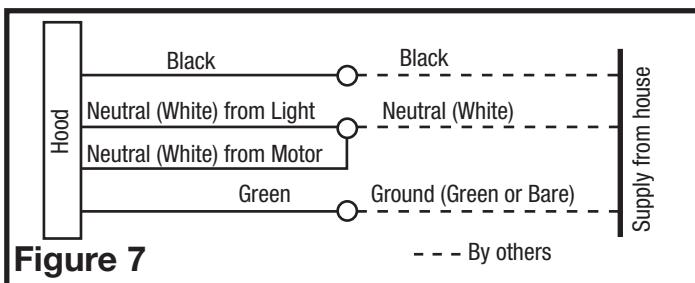

Figure 7
- Connect the 2 loose White wires from the range hood to the White wire from the supply, and the loose Black wire from the range hood to the Black wire of the supply. Connect the ground wire (green or bare) from the supply to the green ground screw of the hood. Use approved methods for all connections (Figure 7).